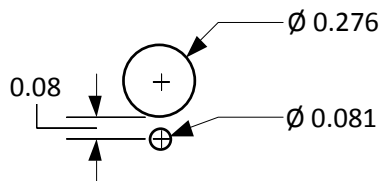

Figure 1.
- 2) Drill a mounting hole and an anti-rotation hole per the drawing in figure 1.